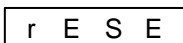

Figure 20: Reset Variables Display
Overview When necessary, the TR400’s variables can be reset to factory default, using the default function. See Figure 20.
2.	Press the REV key; the display will appear as shown in Figure 20, with the factory defaults restored.